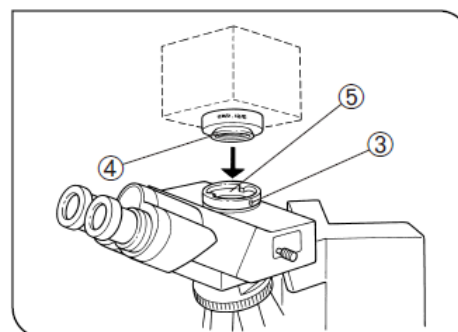

Fig. 2
2. Using the Allen screw driver provided with the microscope, loosen the straight photo tube clamping screw 3, then fit the mount dovetail 4 of the C-mount adapter into the straight photo tube mount 5 of the trinocular tube. (Fig. 2) (#For convenient parfocality adjustment, set the C-mount adapter so that the
3. Tighten the clamping screw 3 firmly. (Fig. 2)